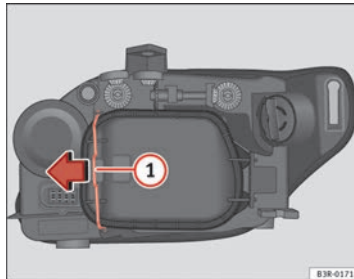

Fig. 210 Dipped beam headlights
Although it is not necessary, previously remove the rigid cover ⇒ Fig. 210 for easier turn signal bulb changes.
- Move the brace ⇒ Fig. 210 ① in the direction of the arrow and remove the rigid cover, separating the brace side and then removing the two tabs from the other end of the cover.